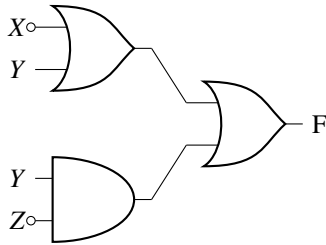

Fig. 3.2
1. Obtain the Boolean Expression for the Logic circuit shown below in Fig. 3.2. (CBSE 2013)